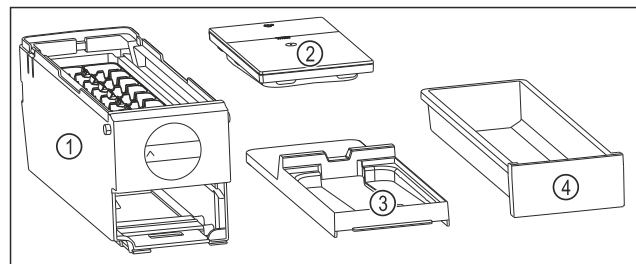

Fig. 167 Components of the EasyTwist-Ice
- EasyTwist-Ice is disassembled in four parts. (see Fig. 167)
- ▶ Only disassemble the EasyTwist-Ice into the illustrated components. (see Fig. 167)
- ▶ Clean the EasyTwist-Ice body Fig. 167 (1) as a complete unit.